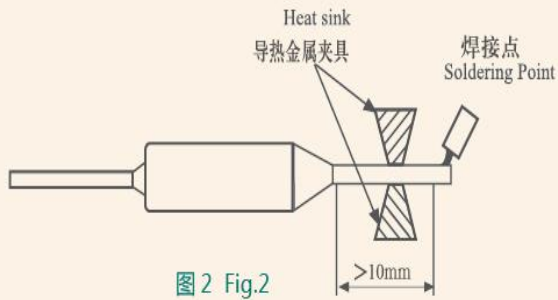

图2 Fig.2
- B. 若温保要用焊锡或浸锡方式与线路连接时，焊锡或浸锡处最好距温保本体 10mm 以上，在 300℃ 状况下焊锡或浸锡时间应控制在 1 ~ 2 秒内为宜，若使用低于 113℃ 的保险丝尽可能不要采用焊锡或浸锡方式。无论是烙铁焊、电焊还是浸锡，都应尽量在短时间内完成，并且要一边焊接一边散热，防止由于受热而发生早断、开路。（见图 2）
- B. If soldering connection is necessary, TCO leads should be heat sink, soldering point should be at least 10mm away from the body of TCO and soldering time should be controlled within 1–2 seconds. It is recommended not to used soldering connection if the rating of TCO is less then  $T_f$  113 ~C, to avoid damage to the TCO. (see Fig. 2)